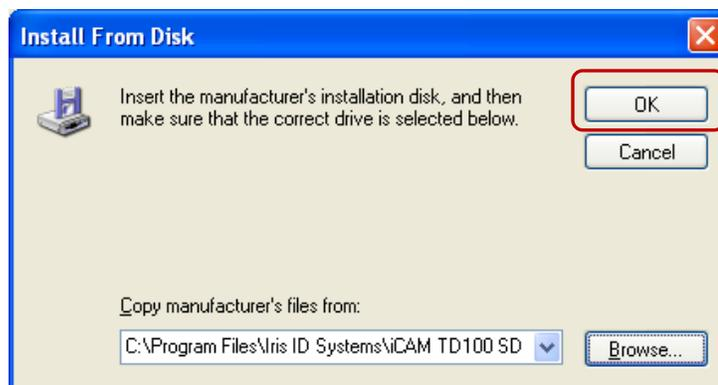

Fig. 13
- Press > **“OK”** button as shown in Figure 13, to proceed to next screen.